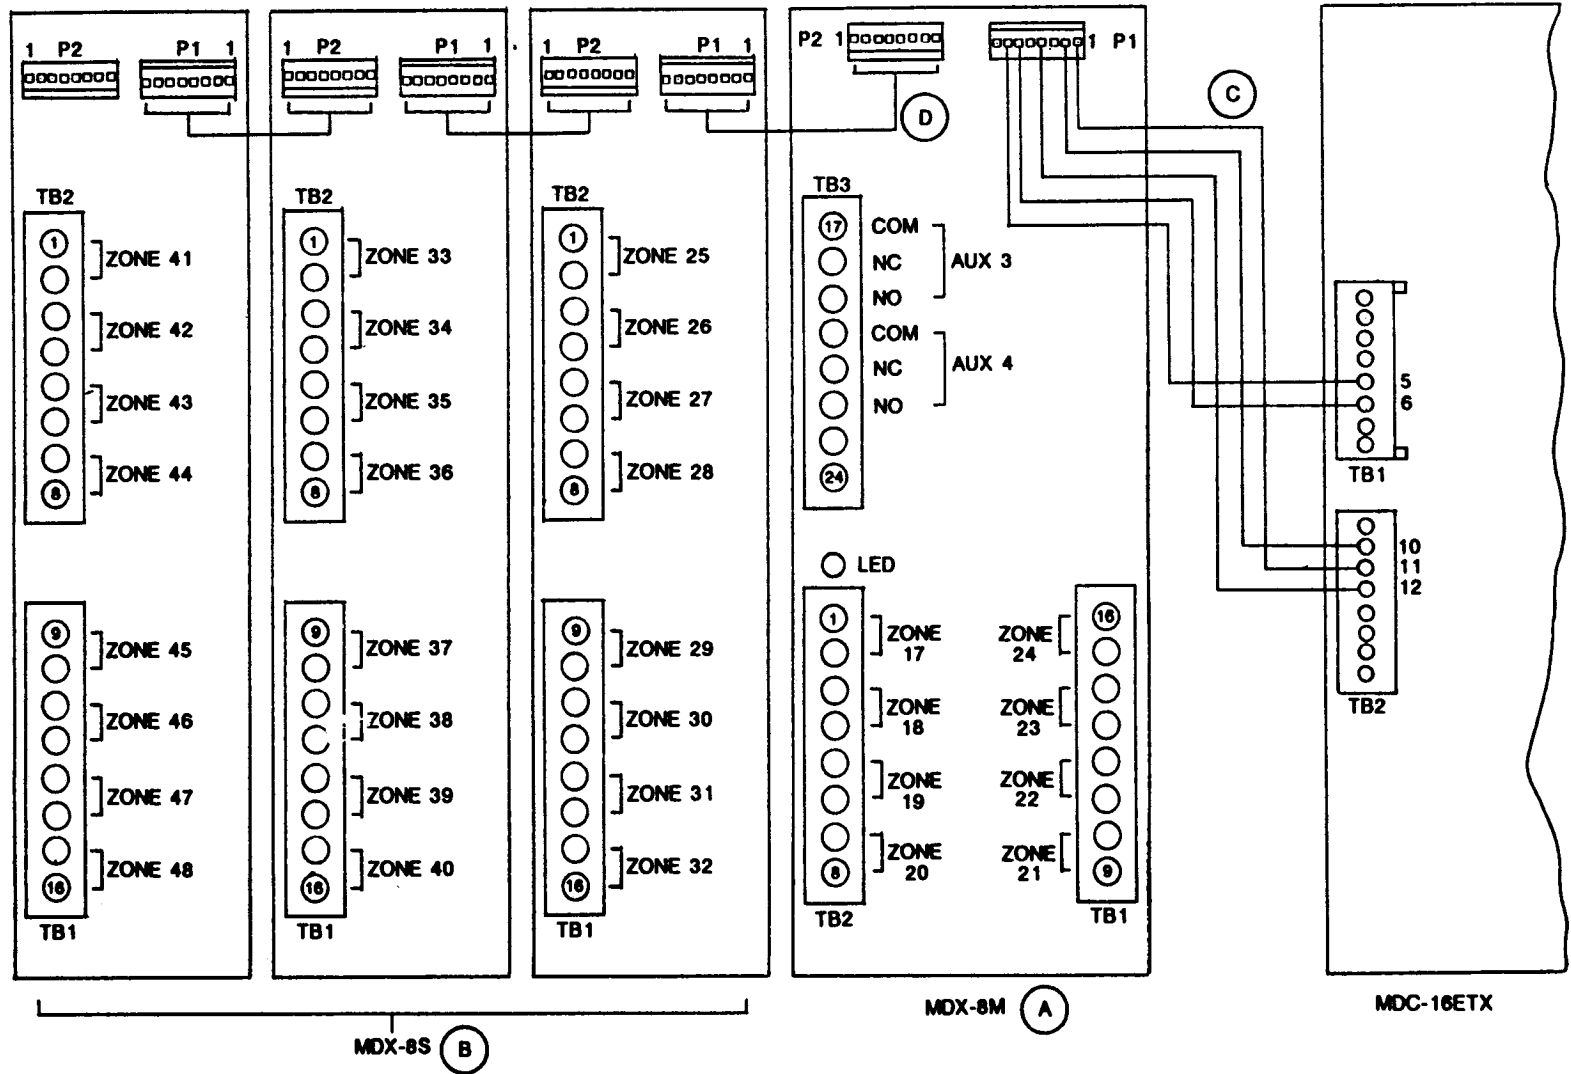

Fig. 4
- 1 - 16       **Protection Loops** For Zones 17 thru 24 are connected as shown in in Fig. 4, Page 7.
- 1 - 16       **Protection Loops** For Zones 25 thru 32 are connected as shown in Fig. 4 on Page 7.